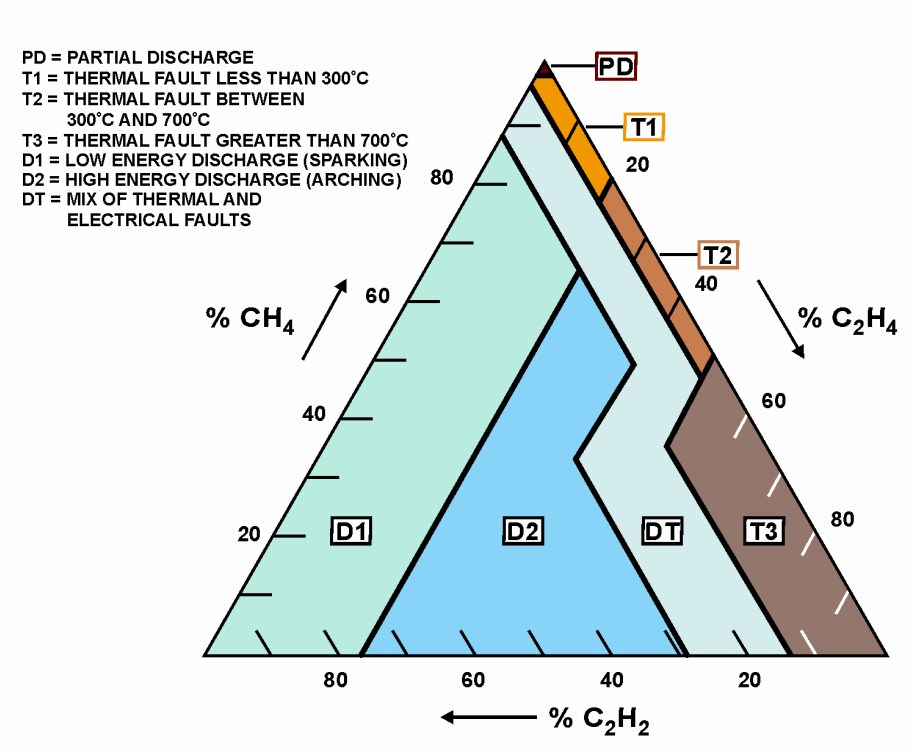

Figure 49 – The Duval Triangle.
Do not use the Duval Triangle (figure 49) to determine whether or not a transformer has a problem. Notice, there is no area on the triangle for a transformer that does not have a problem. The triangle will show a fault for every transformer whether it has a fault or not. Use the above IEEE method or table 13 to determine if a problem exists before applying the Duval Triangle. The Duval Triangle is used only to determine what the problem is. As with other methods, a significant amount of gas (at least L1 limits and G2 generation rates in table 13) must already be present before this method is valid.
4. Point 1 is obtained where the lines intersect within the T2 diagnostic area of the triangle, which indicates a thermal fault between 300 and 700 °C. See figure 49, Legend, above.
4. Point 2 is obtained where the lines intersect within the T3 diagnostic area of the triangle, which indicates a thermal fault greater than 700 °C. See figure 49, Legend, above.